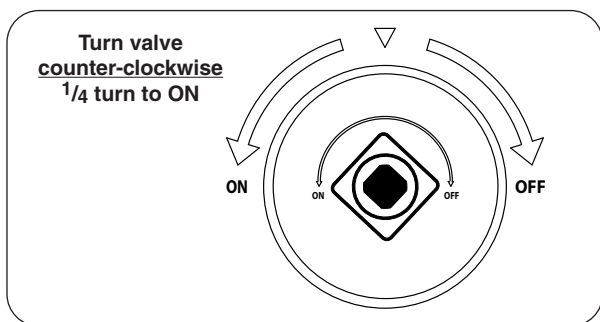

Fig. 45-2 ON/OFF key valve detail
2. Turn the ON/OFF key valve counter-clockwise a  $1/4$  turn to the **ON** position (Fig. 45-2).